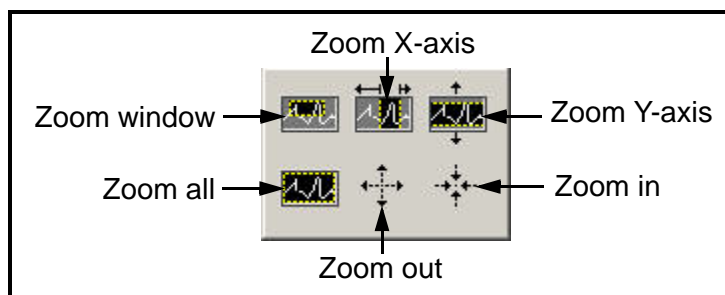

Figure 59: Zoom Tool
- Zoom Tool - gives you six options as shown in Figure 59.